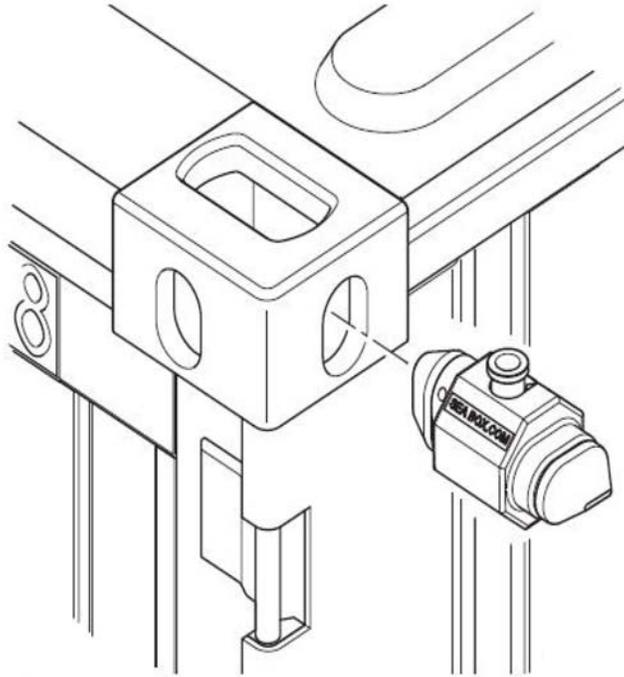

Figure 1-5. Container Connection.
- (8) Insert the container coupler into the ISO aperture in upper left hand corner of container as shown in Figure 1-5.